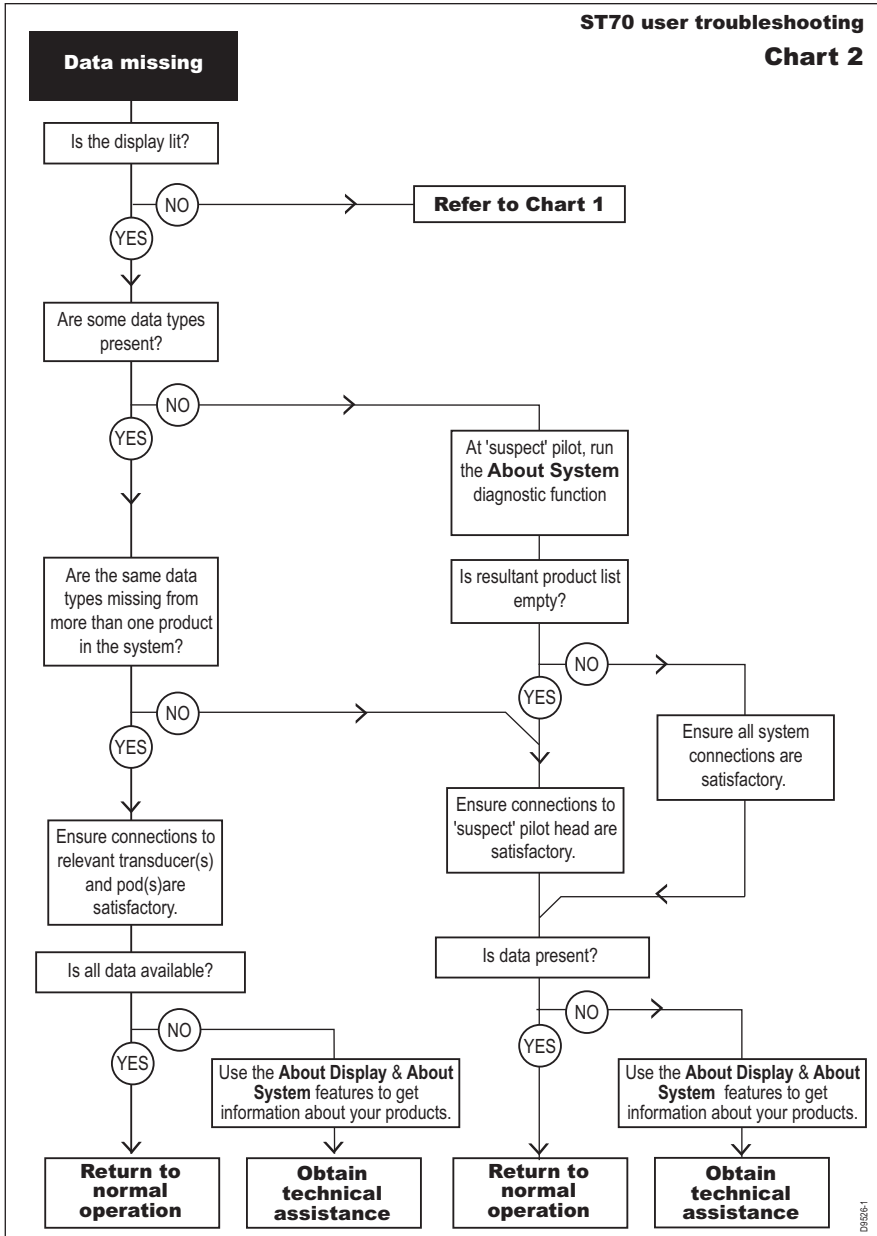

Figure 4-2 ST70 troubleshooting – Chart 2
- Data missing from the controller screen – refer to *Figure 4-2, ST70 troubleshooting – Chart 2*.